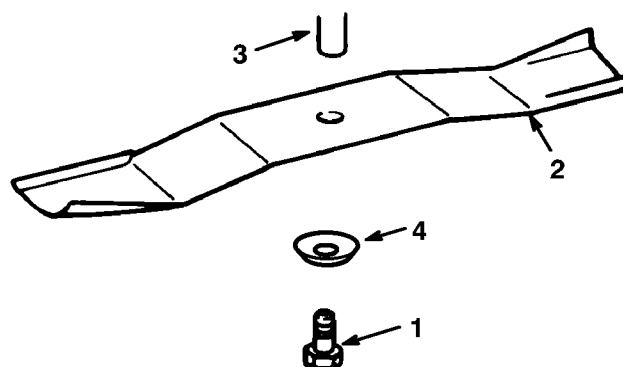

Figure 36
3. Remove the bolt (5/8" wrench), curved washer and blade (Fig. 36). A block of wood may be wedged between the blade and the mower to lock the blade when you are removing the bolt.
1. Install the blade, blade retainer, curved washer (cupped side toward blade), and the blade bolt (Fig. 36).